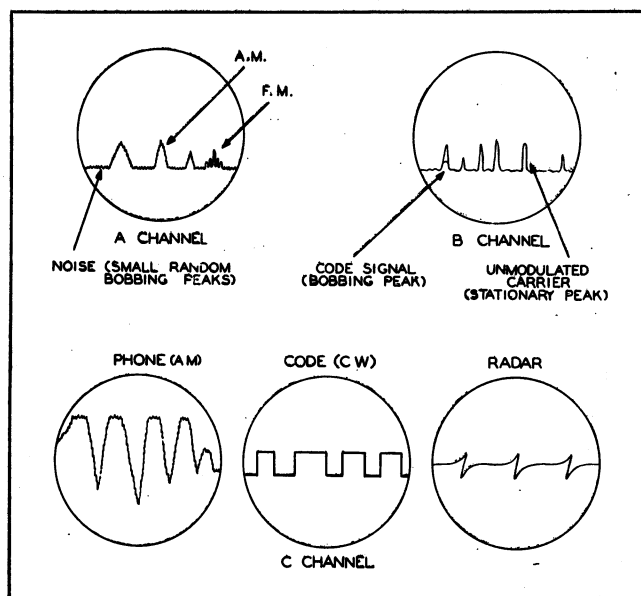

Figure 3-1. Signal Pips on Screen
b. The shape of the peak will disclose the nature of the signal (amplitude modulated, coded, etc.). (See fig. 3-1.)